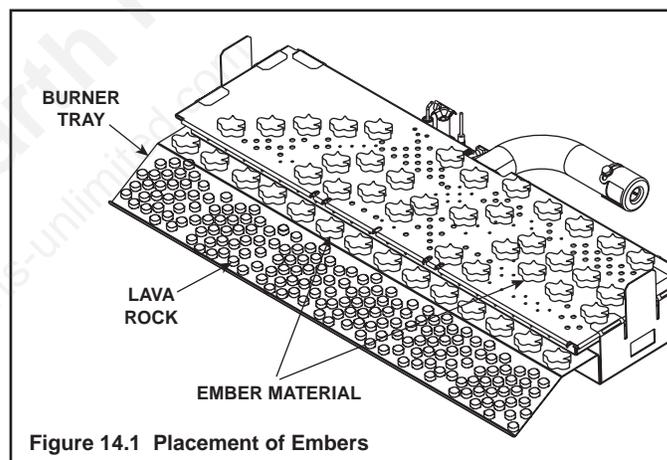

Figure 14.1 Placement of Embers
- Place dime-size pieces of Glowing Embers® just in front of the port trail, but not on or in between the ports (see Figure 14.1). Care should be taken so that the ports are not covered. Failure to follow this procedure will likely cause lighting and sooting problems.